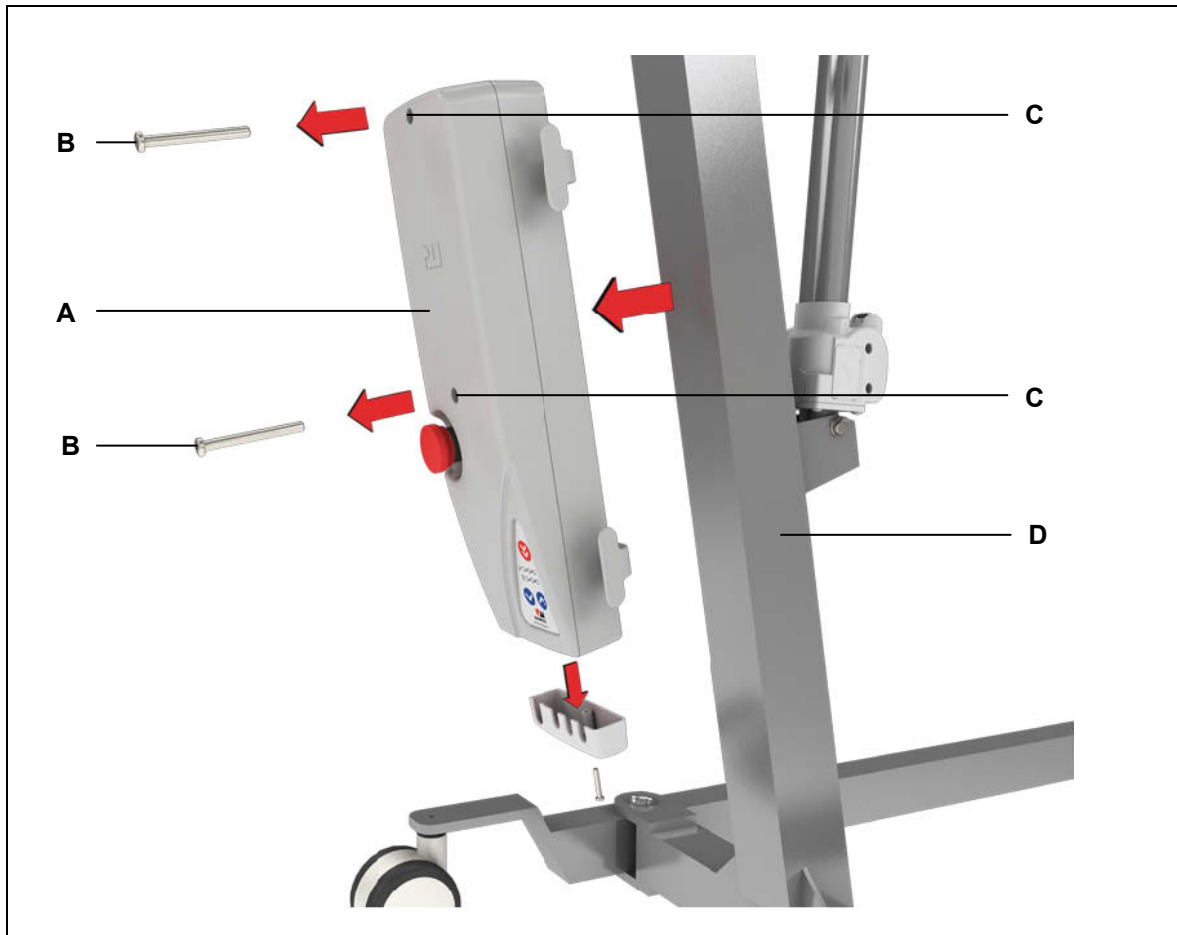

Figure 11 Dismantling from the patient lifter
- 4 Loosen the two cylinder head screws at the attachment points of the *ACCUCONTROL* (refer to Figure 11).